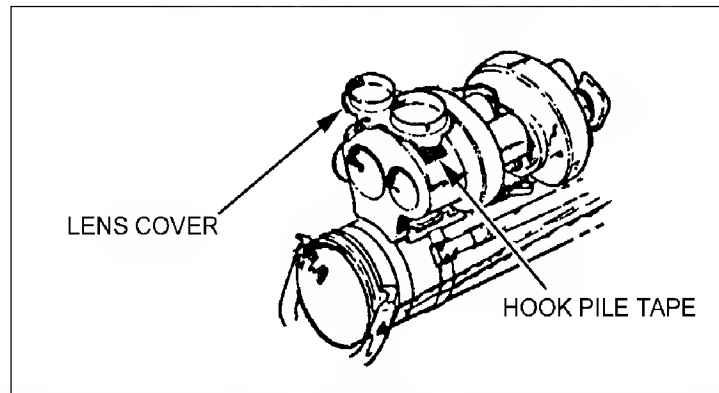

Figure 2-3. Cover secured to forward shock absorber.
d. **Removing the Lens Cover.** Secure the lens cover to the top of the forward shock absorber (Figure 2-3). Visually inspect the lenses for damage or obstruction. When using the nightsight, make sure the ACTUATOR switch is in the ON position.